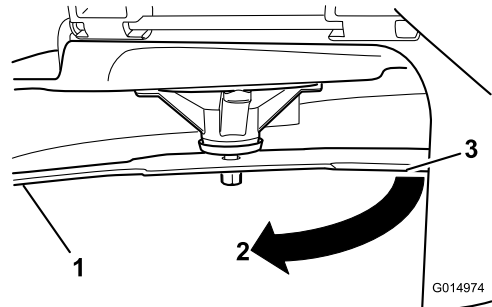

Figure 56
4. Rotate the same blade 180 degrees so that the opposing cutting edge is now in the same position (Figure 56).